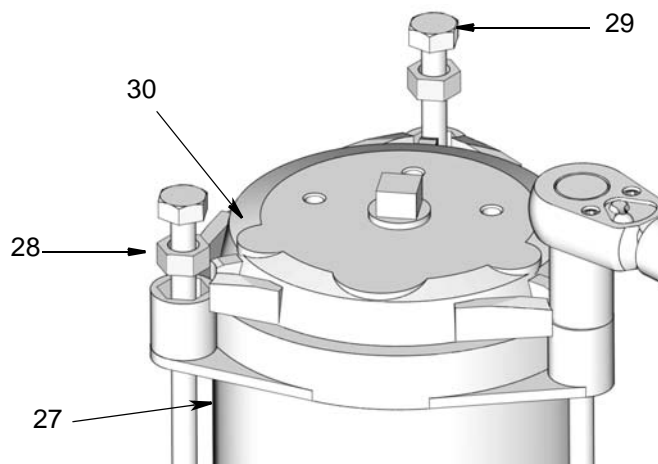

FIG. 13
9. Cover (30) is spring loaded. Use your hand to apply pressure on the cover. At the same time, use a wrench to loosen and remove tie rods (29).
Loosen the rods in a diagonal pattern, taking care to loosen each rod gradually until all rods are completely loosened. Remove tie rods (29) and spacers (28). See FIG. 13.